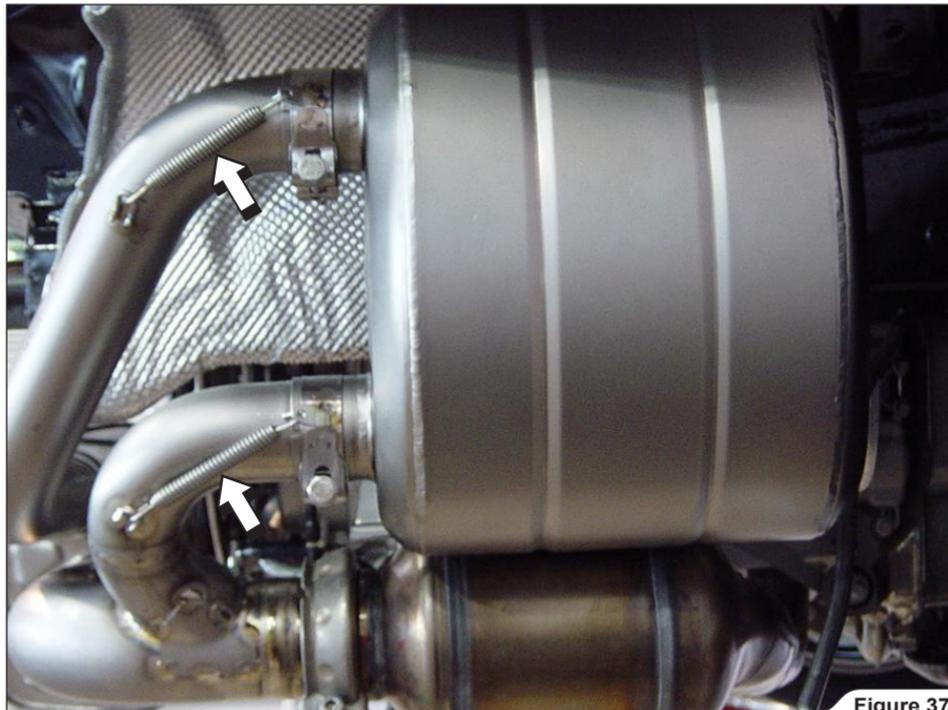

Figure 37
19. **For Evolution and SlipOn-Race:** attach the four additional springs, as shown (Figure 37, 38).